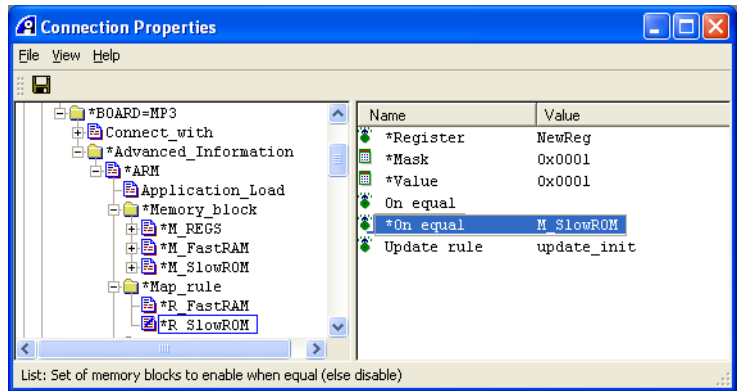

Figure 4-30 Settings for the R_SlowROM map rule
6. Set the value of *On_equal to **M_SlowROM**. Figure 4-30 on page 4-52 shows an example: